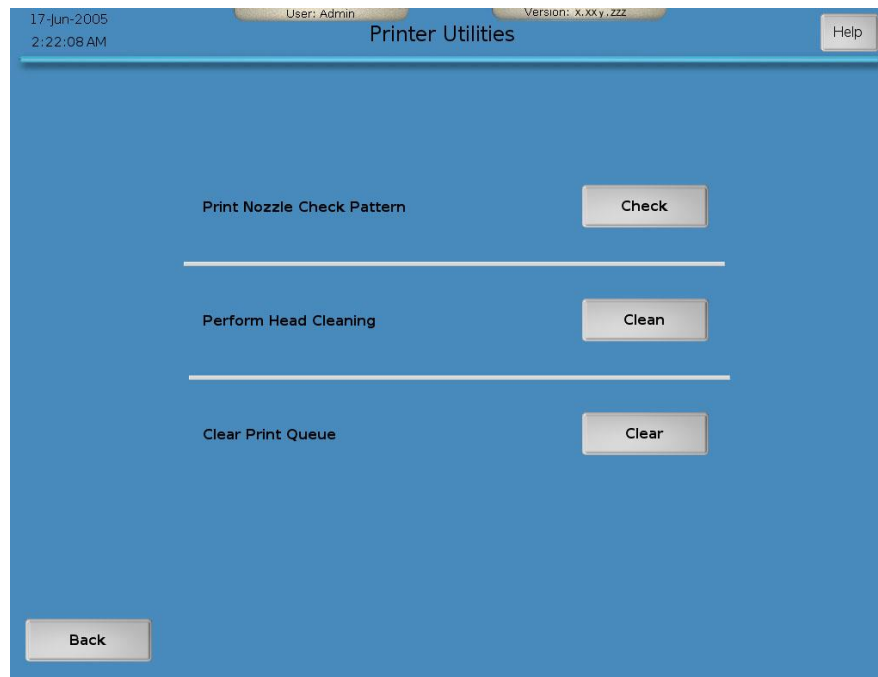

Figure 3-44. Printer Utilities screen
1. Select one of the following printer utilities: Print Nozzle Check Pattern, Perform Head Cleaning, or Clear Print Queue (Figure 3-44).